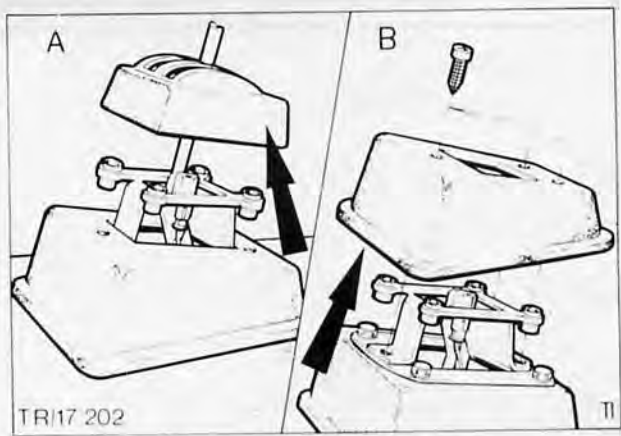

Fig. 3. Removing selector indicator housing, and sound insulation gaiter
1. Lift off selector indicating, housing from selector lever bracket, 'A' in Fig. 3.
2. Remove three screws lift off sound insulation gaiter from selector lever bracket, 'B' in Fig. 3.